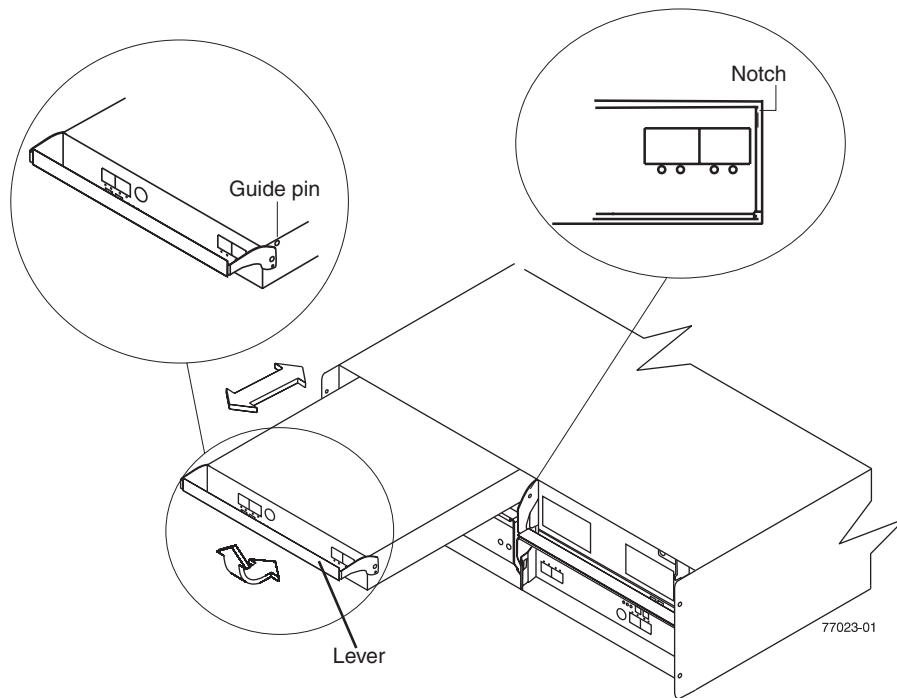

Figure 37. Removing and replacing an Environmental Service Module (ESM)
8. While squeezing the latch, pull the lever open 90° (so that the lever is horizontal). Pull the lever away from the chassis to remove the ESM from the EXP520 midplane, as shown in Figure 37 on page 84.
- b. Slowly pull the lever away from the EXP520 chassis to remove the ESM from the ESM bay, as shown in Figure 37 on page 84. (Remove the ESM from the chassis and place it on an electrostatic discharge (ESD) protected surface.)